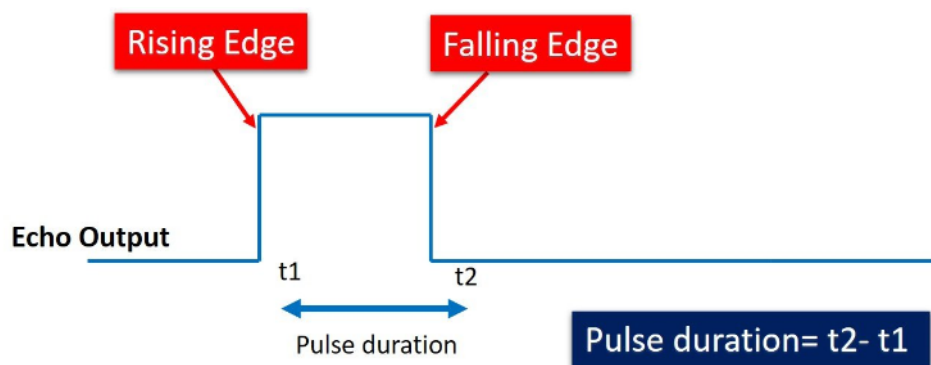

Figure 4: Pulse Duration for HC-SR04 Echo Wave
- By measuring the width of the output pulse, we can measure the distance as shown in Fig. 4.